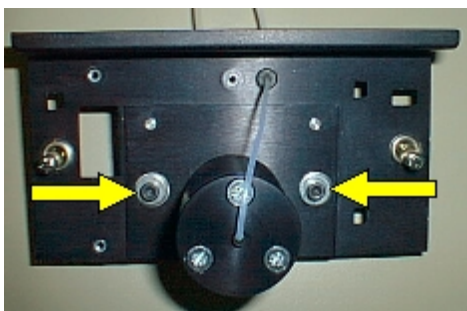

Figure 44 Mount plate locking screws
8. Remove the accessory from the LS-50B sample area and tighten the locking screws shown in Figure 44.